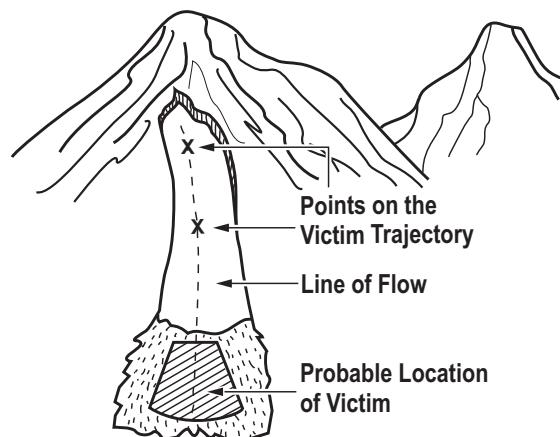

Figure 6-16. Suspected
- Draw a line from where the victim was caught, to the location of equipment, and then to the victim's last seen point. The end of this line may point to the most likely burial site (see fig. 6-16).